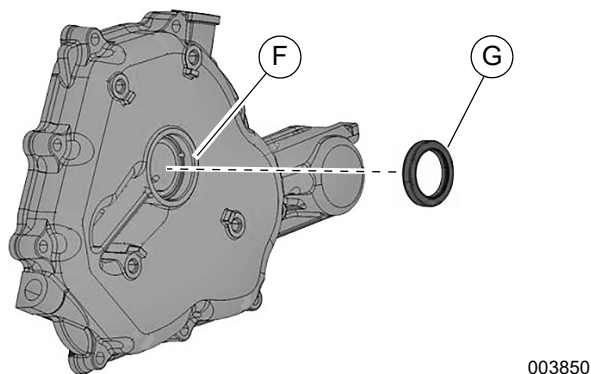

Figure 14-28. Install PTO Seal
3. Press balancer bearing (D) into gear cover until flush with cast surface on the cover. Press gerotor dowel (E) into hole in gerotor bore until fully seated.
5. See Figure 14-28. Verify PTO seal bore (F) is clean and free of burrs and debris. Press crankshaft PTO seal (G) into gear cover until it contacts bottom of PTO seal bore.